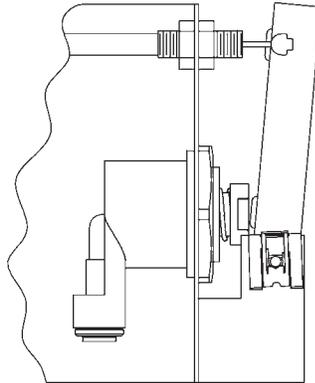

FIG. 11
5. Assemble the operating cable to the fountain bracket. (Fountain should be mounted to exterior wall) Create a loop in the cable and thread the free end of the cable through the wall into the freeze resistant box. The adjustment nuts should be in the middle of threaded area on the operating cable. See Figure 11.
6. Connect free end of operating cable to the valve-operating bracket. The end of the cables must be recessed into the indents on the pivot brackets. Remove cable free play by adjusting the jam nuts on the ends of the operating cable. See Figure 11.